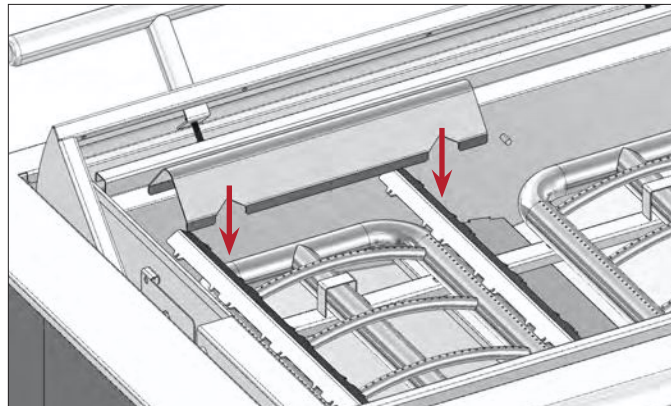

Fig. 2. Position the radiants on the radiant rails.
3. Position the radiants in the radiant support slots. **See fig. 2.** There should be one radiant over each crossover porting bar. **See fig. 3.**